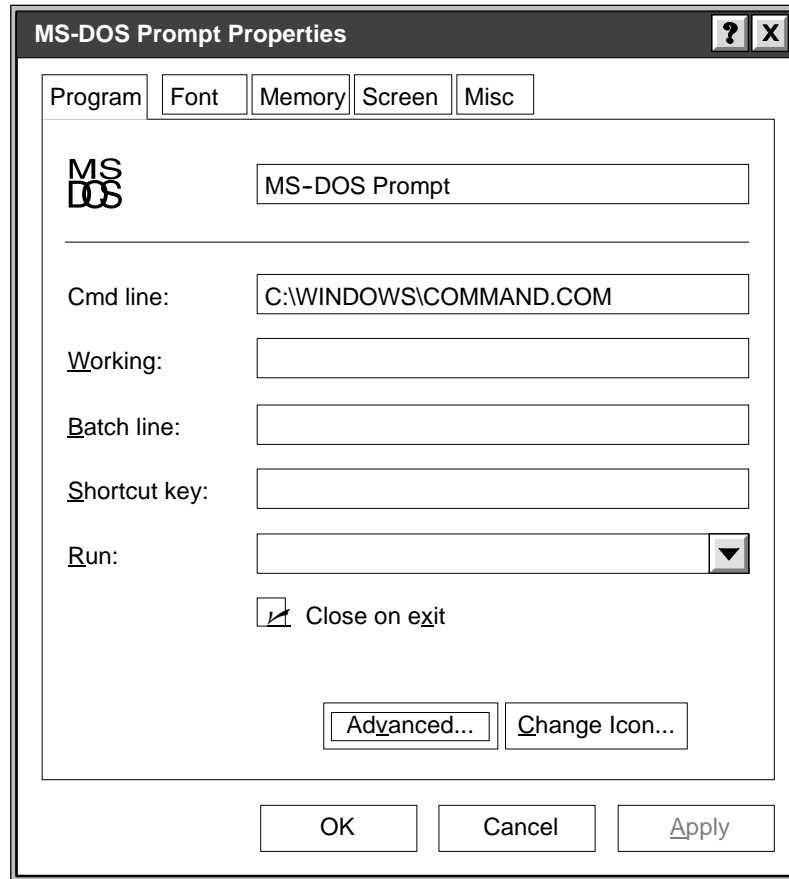

Figure D-12 MS-DOS Prompt Properties Dialog Box
1. Click the right mouse button on the new icon, and select **Properties** from the menu. The system displays the MS-DOS Prompt Properties dialog box (Figure D-12).